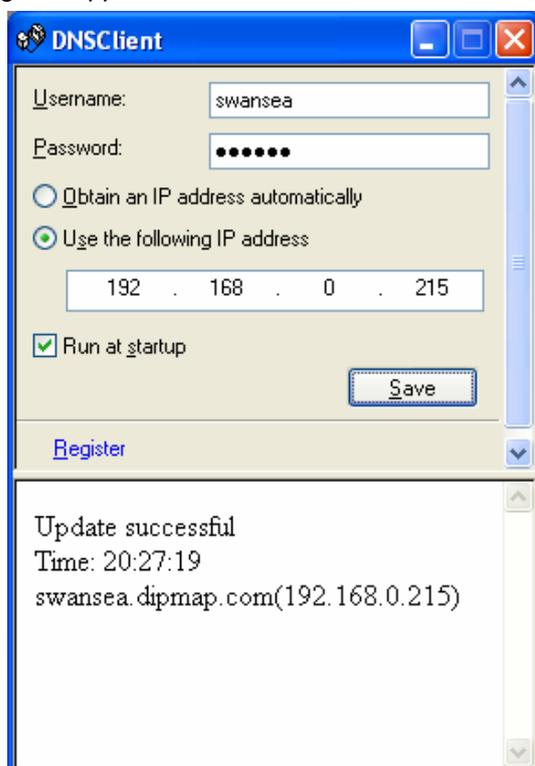

Figure 10-3
1. Go to Windows **Start**, point to **Programs**, select **DDNS**, and then run **Dynamic DNS Service**. The DNS Client dialog box (Figure 10-3) appears. Click **Register**. The following Dynamic DNS register page appears.